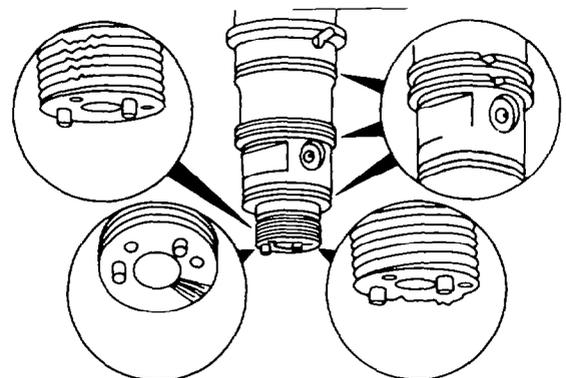

Figure 91 — Injector Adapter — Inspection
- am. Inspect the injector adapter for damage to the threads, O-ring grooves and the barrel mating surface for nicks or burrs (see Fig. 91). Replace the adapter if damage is evident.